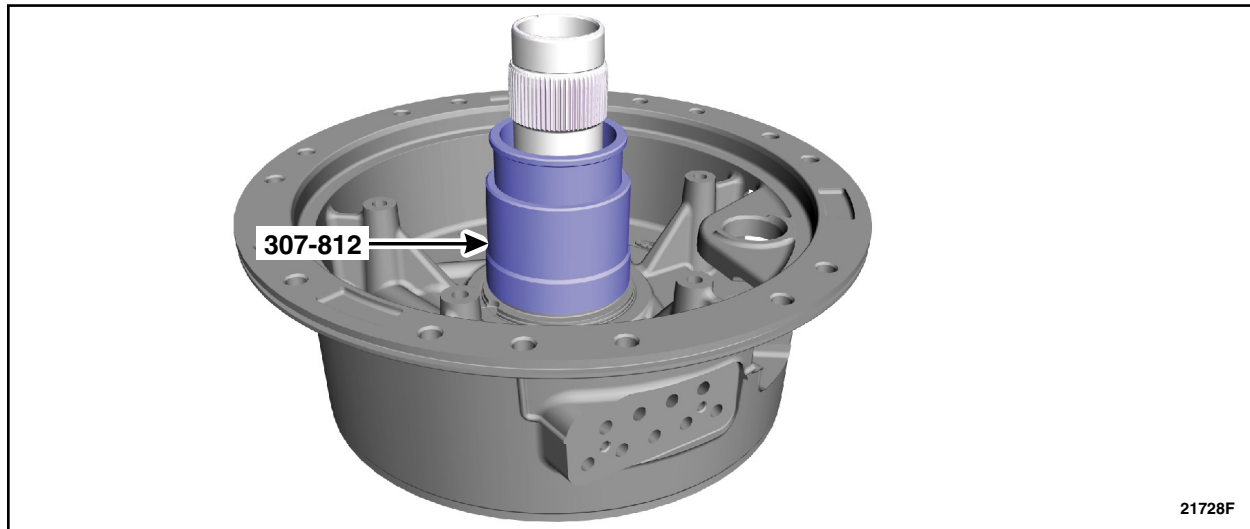

FIGURE 5
6. Using the special tool, size the stator support (F1) Teflon® seal. Allow the special tool to stay on until final assembly. Use Special Service Tool: 307-812 pusher & sizer, F1 Seal guide. See Figure 5.